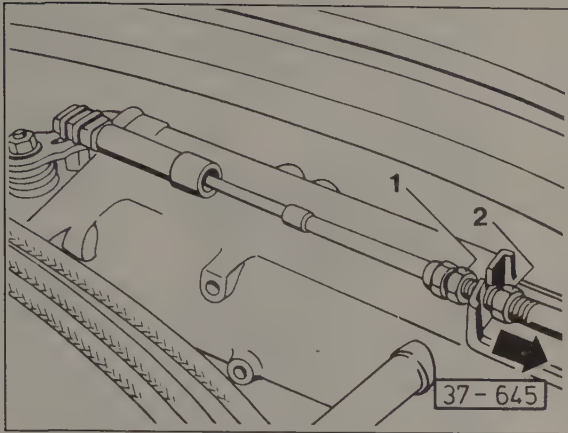

Fig. 4-5. Accelerator cable being adjusted on gasoline engine with automatic transmission. Move cable in direction of arrow before tightening locknuts 1 and 2.
3. Lightly tension the throttle cable as shown in Fig. 4-5, until there is no free-play in the cable. Turn the locknut (1) against the bracket, making sure the throttle valve is still fully closed. Tighten the other locknut (2) and torque to 10 Nm (87 in. lb.).
- Hook the end of the accelerator cable onto the operating lever of the transmission. With the accelerator pedal fully depressed to the kickdown position, turn the accelerator cable adjuster so that the transmission lever just contacts the kickdown stop. See Fig. 4-5 above.